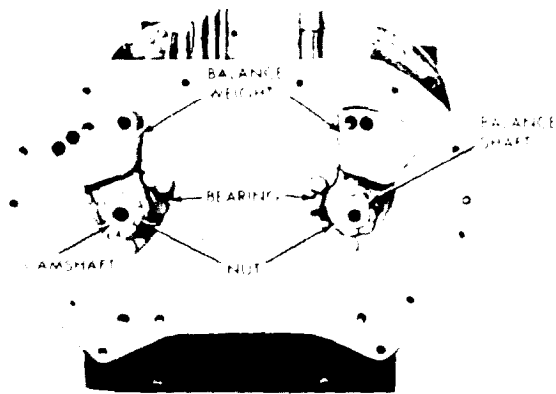

Figure 11B-141. Front Balance Weight Mounting
The front balance weights are keyed to the front end of the camshaft and the balance shaft (Figure 11B-141 on page 11B-92). Balance weights are of one piece construction.
2. Place a block of wood between the balance weights to prevent rotation (see Figure 11B-142 on page 11B-92).